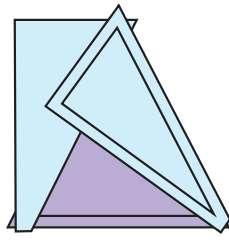
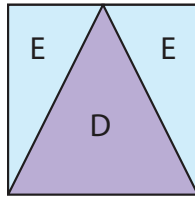

Fig. 24
Fig. 25
23. Place one Fabric E- Template 3 triangle on top of the Fabric D-Template 2 triangle, right sides together, aligning the right sides (Fig. 24). Sew the two triangles together along the right side. Press the smaller triangle open to make one EDE unit (Fig. 25). Trim to measure $10 \frac{1}{2}$ " square.